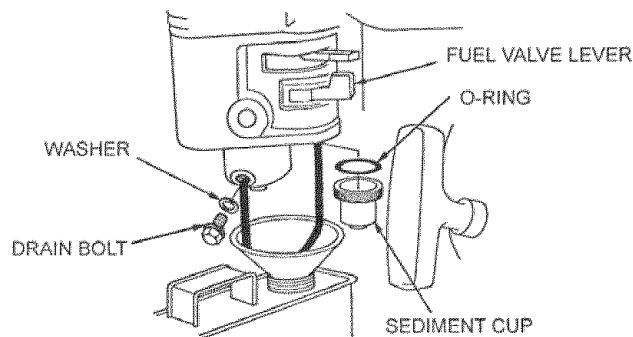

Figure 22- Draining the Fuel Tank Carburetor.
2. Remove the carburetor drain bolt and sediment cup, and then move the fuel valve lever to the ON position (see figure 22).